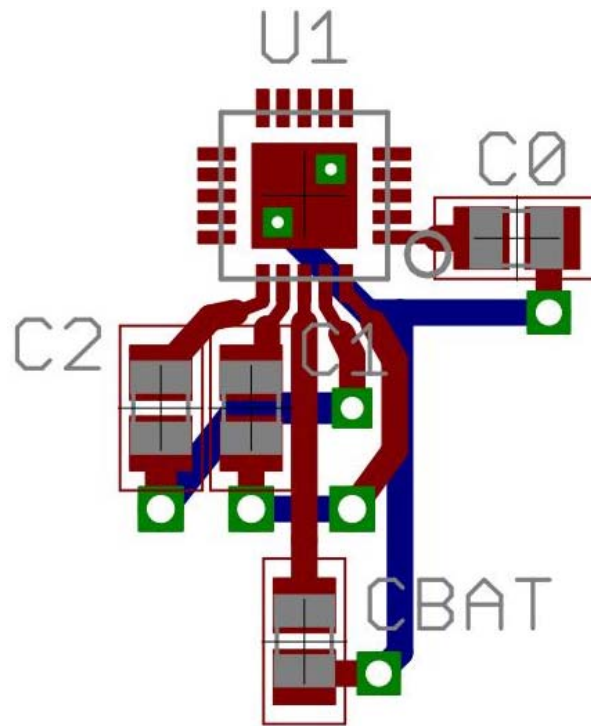

Figure 17. C_0 , C_1 , C_2 , and C_{BAT} Layout Recommendation
5. Charge pump capacitors C_0 , C_1 , C_2 , and decoupling capacitor C_{BAT} should be as physically close to the NCP1840 as possible – see Figure 17.